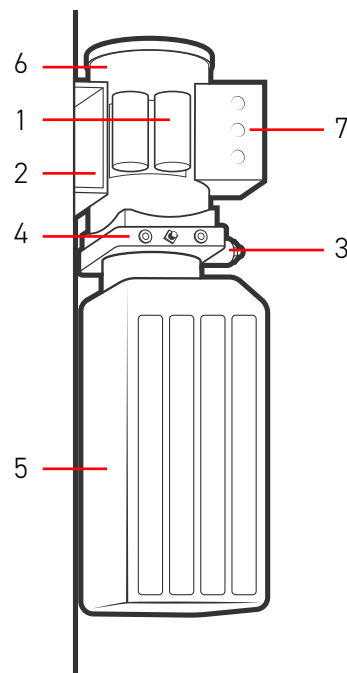

Fig. 5
1. Two hydraulic cylinders (8), to lift the vehicle anchored to the post.
2. One hydraulic unit (see fig.5), mount on the command side, to set the cylinders run.
1.4 HYDRAULIC POWER UNIT (FIG.5)